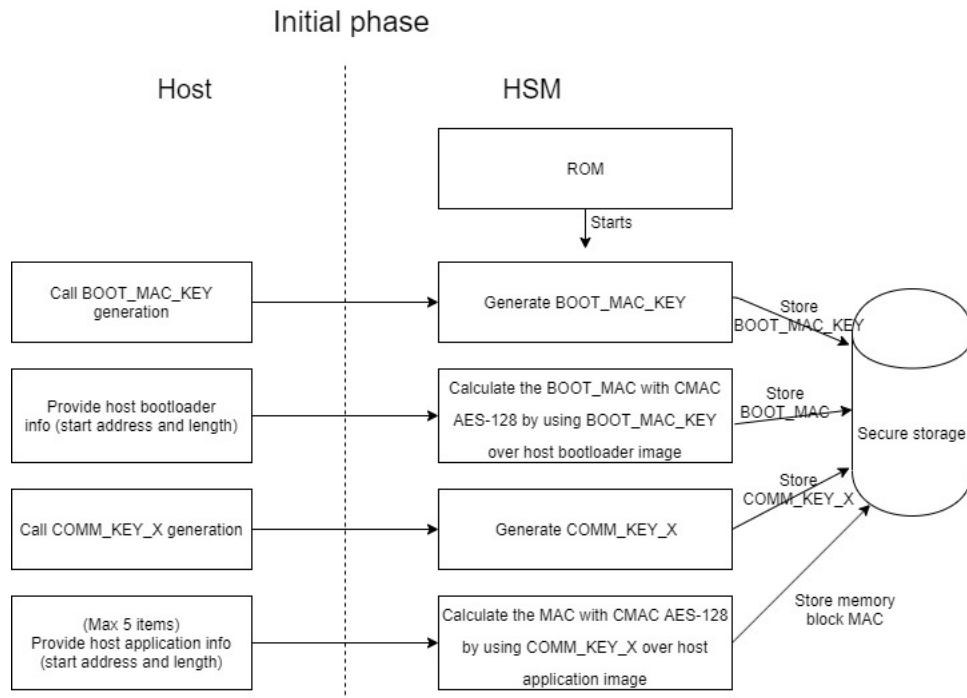

Figure 3.1. Secure boot configuration
- ▶ Secure boot configuration: Figure 3.1, “Secure boot configuration”